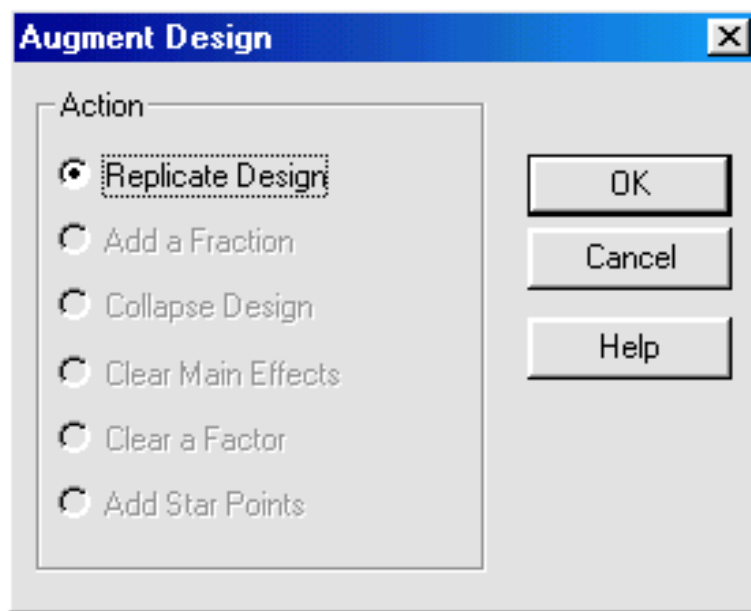

Figure 12-1. Augment Design Dialog Box
1. Choose SPECIAL... EXPERIMENTAL DESIGN... AUGMENT DESIGN... from the Menu bar to display the Augment Design dialog box shown in Figure 12-1.